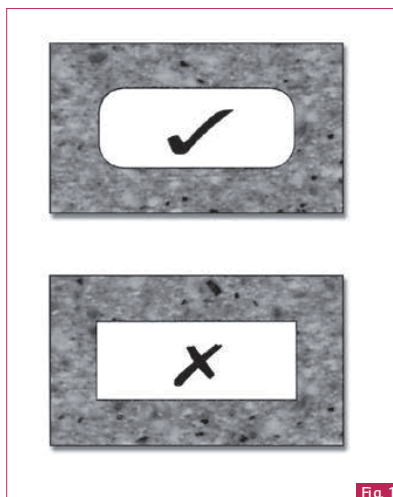

Fig. 1
- 12.3 Always machine a radius around these corners and make the radius as large as practical, ($R > / = 5 \text{ mm}$). (Fig. 1).
- 13.2** One of the easiest ways to produce a drop edge is to simply stack layers of HI-MACS® on the underside of the sheet. (Fig. 1).